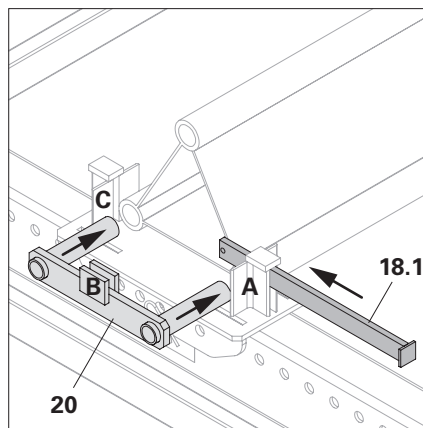

Fig. A6.02b
1. On the last Aluminium Rail URT, push the two pins of the Rail End Piece URD (**20**) into the two lower holes of the profile tube. (Fig. A6.02b)